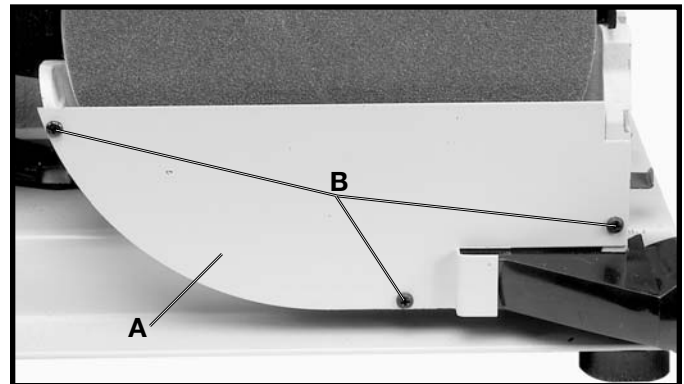

Fig. 11
2. Assemble the lower sanding disc guard (A) to the disc base using the three M4X6mm sheet metal screws and washers (B), as shown in Fig. 11.